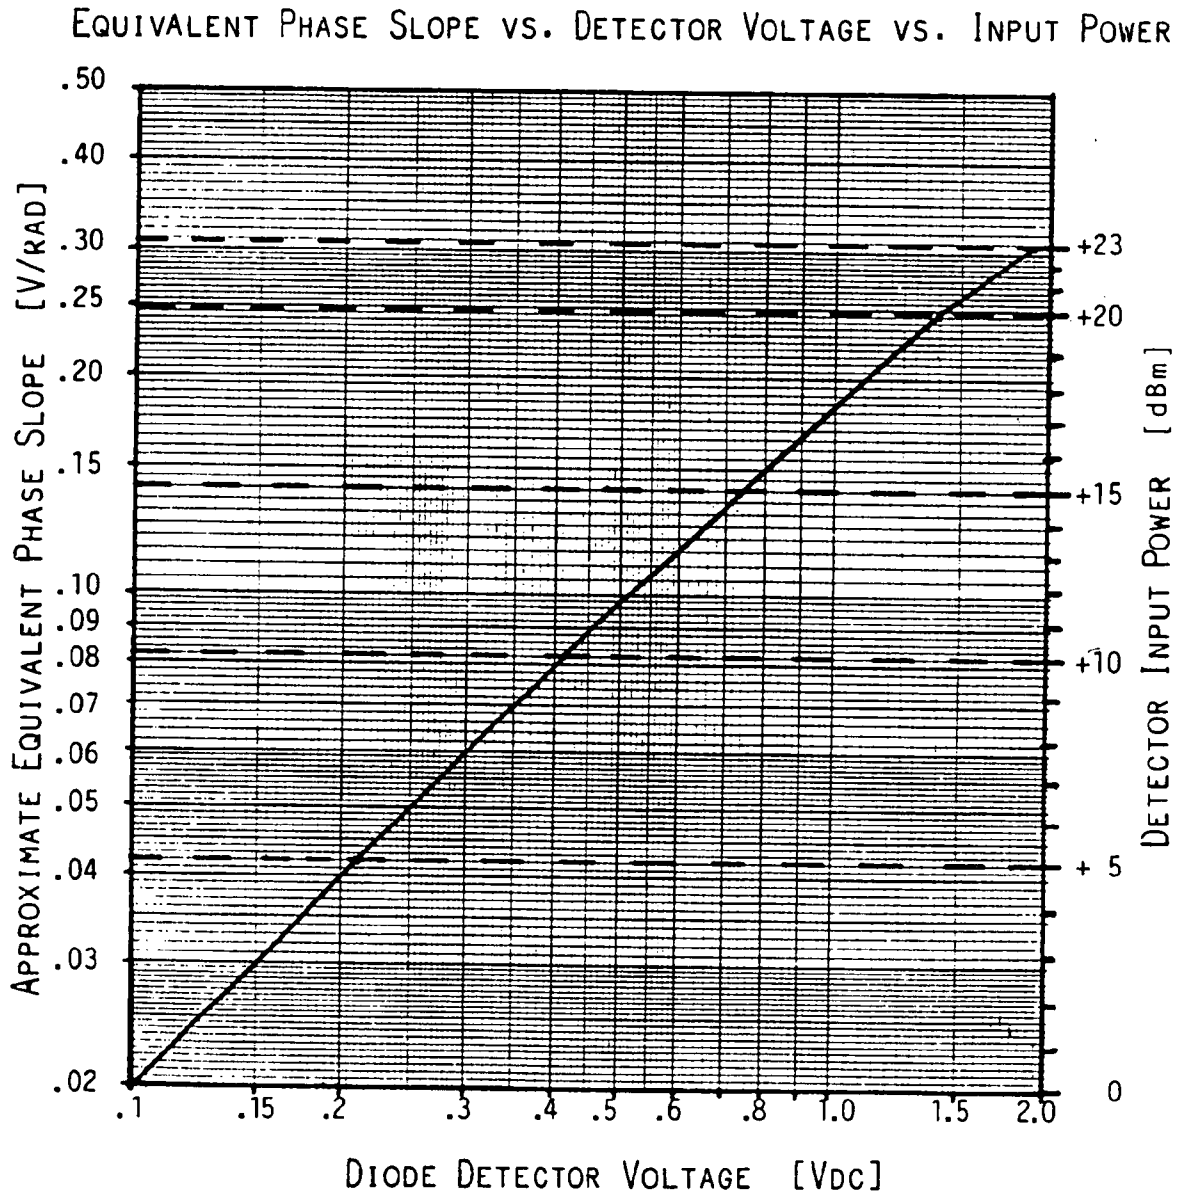

Figure 3-5. AM Detector Sensitivity Graph
3. Locate the drive level on the AM sensitivity graph (figure 3-5), and enter the data.